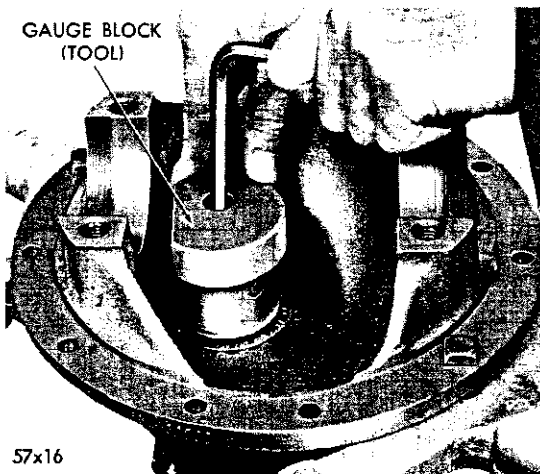

Fig. 20—Installing Gauge Block
(1) Invert the carrier in the stand and install gauge block SP-528 or SP-3250 on the end of the tool (Fig. 20), attaching it to the tool with the Allen screw. The flat portion of the spacer should be facing the differential bearing pedestals and the offset of the spacer (or the large portion) toward the center of the carrier. Tighten the screw with an allen wrench.